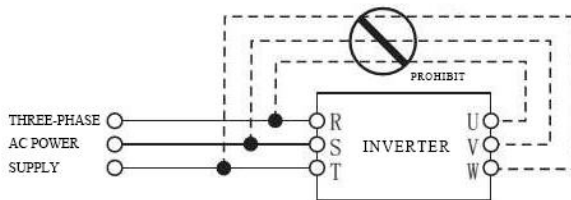

figure 1-2
- It is strictly prohibited to connect the AC power supply to the output terminals U , V , and W of the inverter , otherwise the inverter will be damaged, as shown in Figure 1-2 .